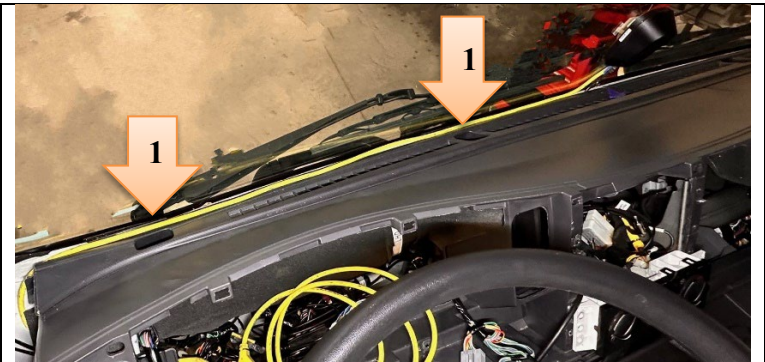

Figure 17
14. Inspect the cable in the two (2) areas nearest the IP mounting bolt locations. (See Figure 17.)